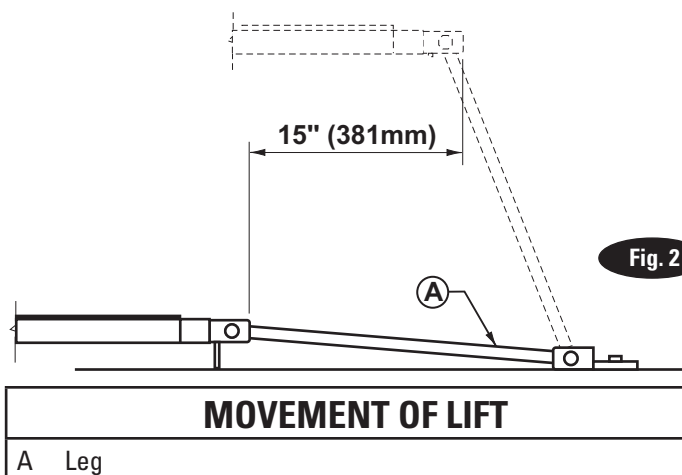

Fig. 2
**Note:** At full rise, the lift moves the vehicle 15" (381mm), Fig. 2.